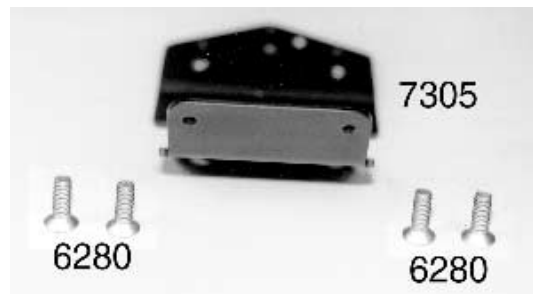
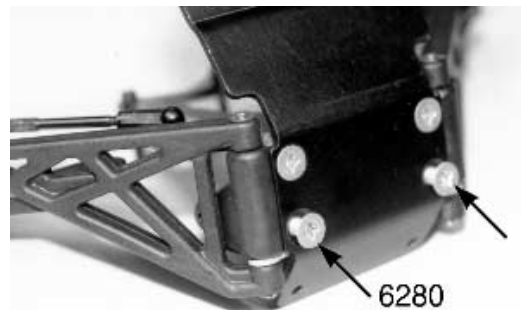

Fig. 23
Fig. 24
☐ **Figs. 23, 24 & 25** (1) Open bag #7-4 and remove the #7305 black aluminum chassis nose plate. (2) Back in bag #7-1 you will find four #6280 8-32 x 1/2" aluminum FHMScrews. (3) Using a #2 Phillips screwdriver we are going to install the front bulkhead assembly to the #7305 nose plate. Insert one of the #6280 FHMScrews through the bottom of the nose plate and line it up with the appropriate hole in the bottom of the front bulkhead (see fig. 24). Do not tighten the screw all the way down. (4) Now install the other three #6280 FHMScrews the same way and then tighten down all four screws. DO NOT OVERTIGHTEN, otherwise you will strip out the nylon. When you are done your front end will look like fig. 25.